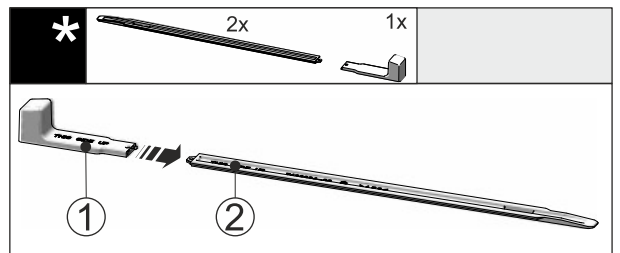

Fig. 47
- ▶ Insert the mounting handle Fig. 47 (1) into the leveling rail Fig. 47 (2).